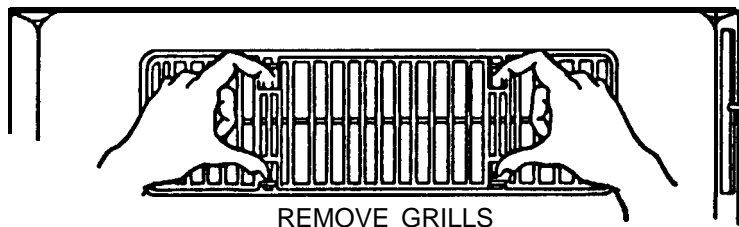

FIG. 9.A.
- A. Remove the two return air grills and filters which are shipped loose in the air box. (FIG. 9.A)
- B. Slide the front end of the air box over the shafts of the thermostats and selector switch. (FIG. 9.B)